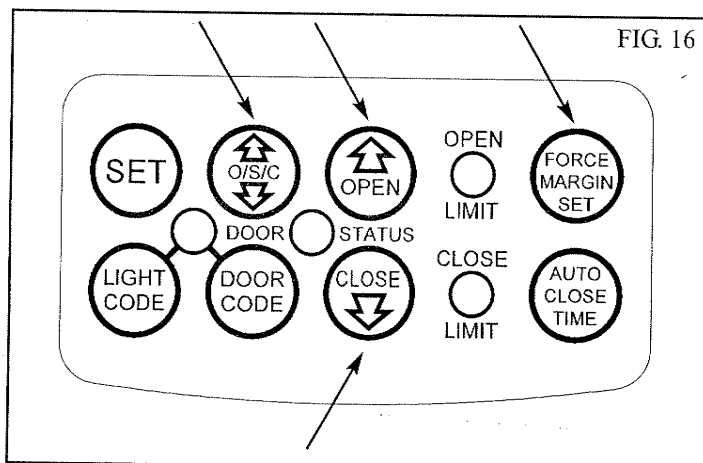

FIG. 16
1. Press and hold the Close button (Fig. 16) for six (6) seconds until you hear three beeps and the red Close Limit LED starts to flash. Release the button.
1. Open the door by pressing the Yellow O/S/C button (Fig. 16).
1. Press and hold the Force Margin Set button (Fig. 16)
1. Press and hold the Force Margin Set button (Fig. 16).
1. While holding down the Force Margin Set button (Fig. 16) press the SET button for two (2) seconds.